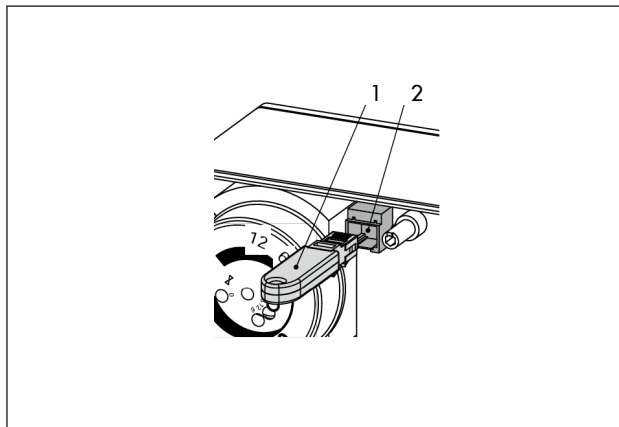

Fig. 27: Connecting actuator and memory pen
The memory pen is connected to the actuator as shown in Fig. 27. The TROVIS-VIEW Operating Instructions ► EB 6661 describe how to transfer data.
1. Plug the memory pen into the serial interface of the actuator (Fig. 27). The yellow LED on the actuator indicates that the data logging is being prepared (see Chapter 8.4). A change in the blinking pattern of the yellow LED indicates that data are being saved to the memory pen.